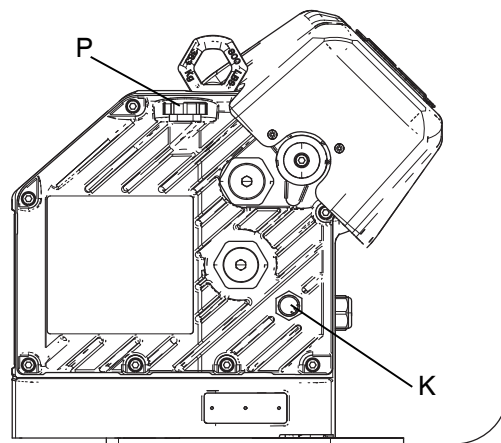

FIG. 8: Sight Glass and Oil Fill Cap
3. Open the fill cap (P) and add Graco Part 16W645 ISO 220 silicone-free synthetic EP gear oil. Check the oil level in the sight glass (K). (See FIG. 8.) Fill until the oil level is near the halfway point of the sight glass. The oil capacity is approximately 1.0 - 1.2 quarts (0.9 - 1.1 liters). Do not overfill.
4. Reinstall the fill cap. See FIG. 8.
See FIG. 8. Check the oil level in sight glass (K). The oil level should be near the halfway point of the sight glass when the sprayer is not running. If oil is low, open fill cap (P) and add Graco Part No. 16W645 ISO 220 silicone-free synthetic EP gear oil.